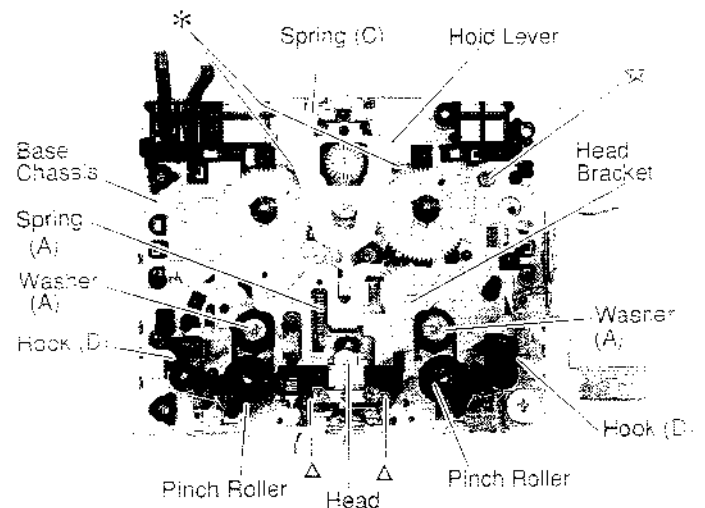

Figure 14
- (1) After removal of two Flywheels, remove two Pinch Rollers by removing two Hooks (D) as shown in Figure 14.
- (2) Remove the Head Bracket, by removing a Spring (A) and a screw marked "□" as shown in Figure 14 and 15.
- (6) Remove the Hold Lever by removing a Spring (C) as shown in Figure 14.
- (7) Remove two screws marked "☆" as shown in Figure 14.
- (1) After removal of the Play Arm, remove a screw marked "☆" as shown in Figure 14.